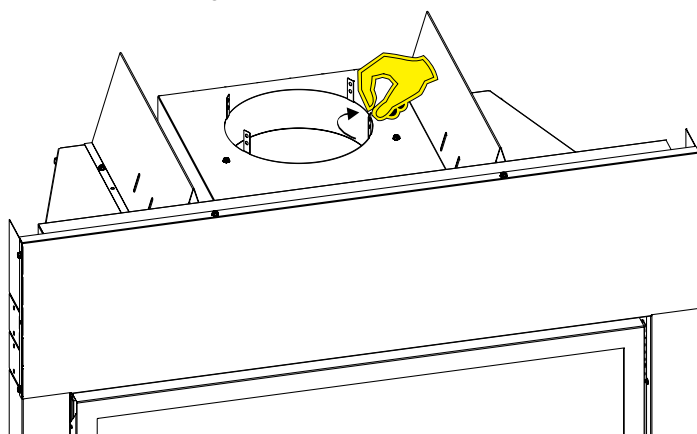

Figure 20
1. Hand bend the tabs up on the Outer Wrapper Top Assembly as shown in Figure 20.